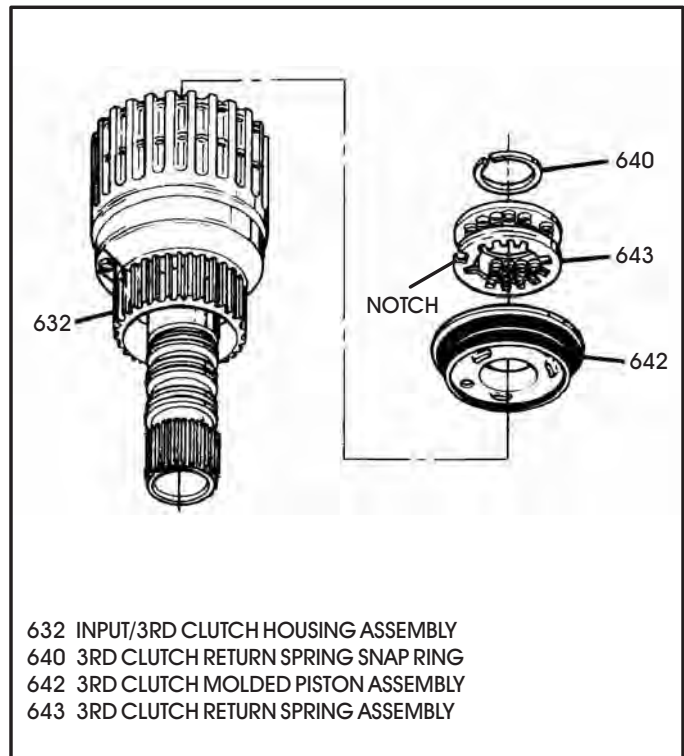

Figure 120
18. Lubricate the 3rd clutch molded piston and install into 3rd clutch housing, as shown in Figure 120.
19. Install the 3rd clutch piston return spring onto the 3rd clutch piston, using care to orient the return spring so that notch in the return spring fits around the ball capsule (See Figure 120).